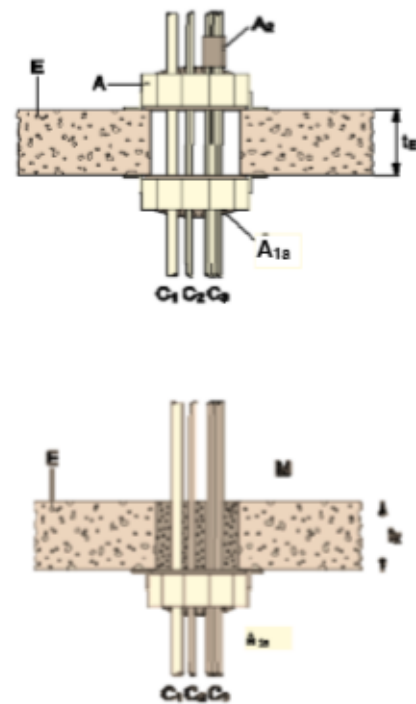

Figure 12: Floor penetration
- Hilti Firestop Cable Collar CFS-CC (A) on both sides of the floor, thickness of penetration seal ( $t_a$ )  $\leq 250$  mm
- Penetrating elements ( $C_1$ ) - see illustration Figure 12 in Annex C.3.2 of the ETA
- Hilti Firestop Cable Collar CFS-CC (A) on both sides of the floor, thickness of penetration seal ( $t_A$ )  $\leq$  250 mm